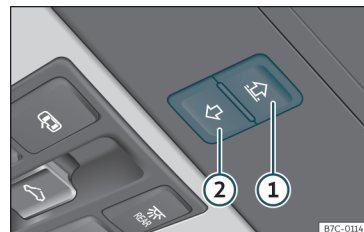

Fig. 90 On the interior roof lining: sunshade blind buttons.
Buttons >>> **Fig. 90** ① and ② have two levels. The first level opens or closes the sun blind fully or partially.
- **Sun blind:** within approximately 5 seconds of having activated the anti-trap function, press button»» Fig. 90 ② until the sun blind closes completely.